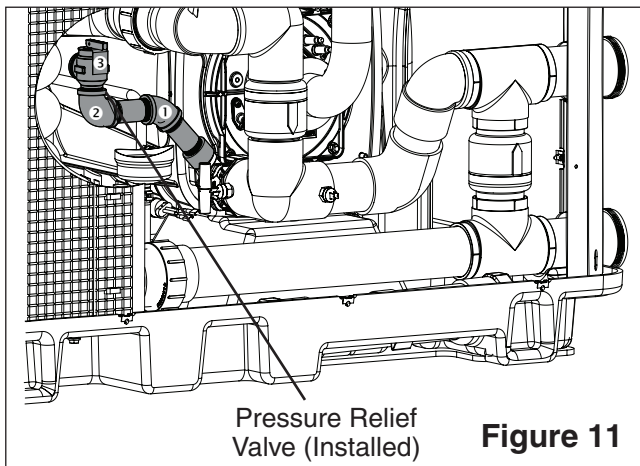

Figure 11
3. Thread the Schedule 40 brass pipe and 45-degree elbow [1], included in the PRV kit, into the lower gas engine manifold. The elbow should be oriented so that the elbow's female thread is horizontal. See **Figure 11**.
4. Thread the second Schedule 40 brass pipe and 90-degree elbow [2] into the 45-degree elbow [1]. Ensure that the open end of the 90-degree elbow is oriented vertically. See **Figure 11**.
5. Install the Pentair pressure relief valve (P/N 072138), included in the PRV kit, or an equivalent 50 psi (345 kPa), 3/4-inch ASME-Type IV relief valve [3] into the 90-degree elbow [1]. See **Figure 11**.